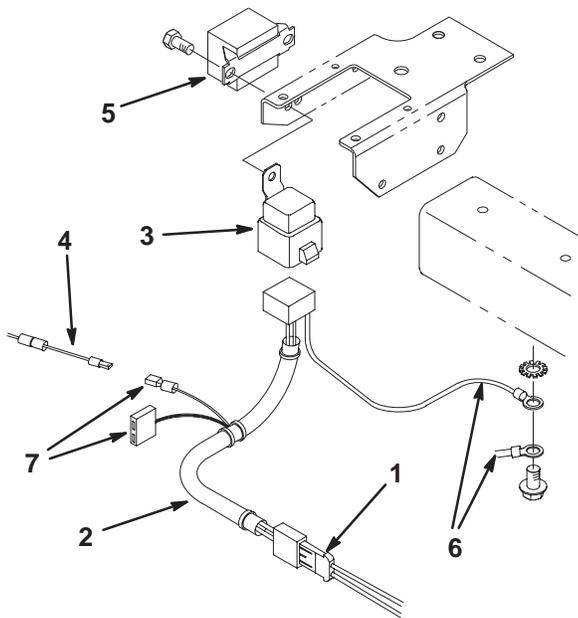
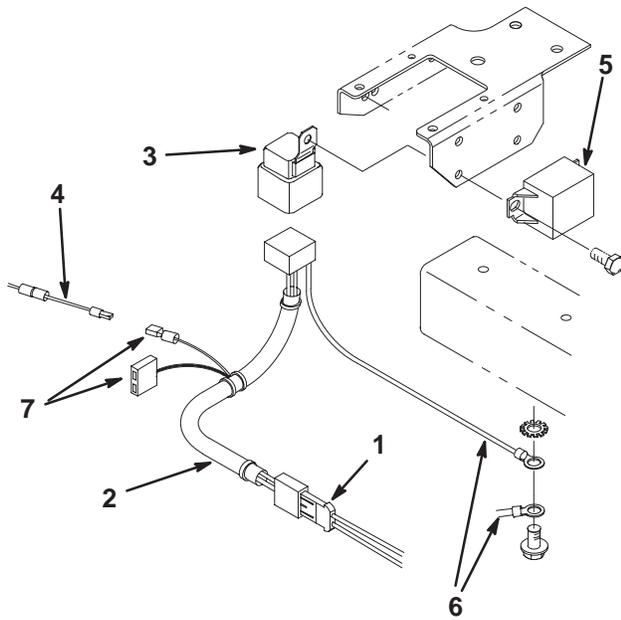

Figure 4
Figure 5
- Plug the switch connector into the main traction unit harness (Fig. 4). Also, Toro software, Part No. 94-7342 must be at least revision A. The revision level can be found on Toro PC.
- Plug the switch connector into main traction unit harness (Fig. 4).
- Insert the ends of the Violet/Red wires into the splice terminal on the jumper wire (included in the kit) (Fig. 4) and crimp the terminal.
- Locate and remove the self tapping screw securing the ground wire to the underside of the frame below the relays (Fig. 4).
- Secure the ground wire and backlap harness ground wire to the frame with the screw removed (Fig. 4).
- Remove the fasteners securing the front of the glow relay to the bracket (Fig. 4). Secure the backlap relay to the inside of the bracket with the fasteners removed.
- Connect the backlap harness to the relay, switch connector, and main harness (Fig. 4).
Model 04381 with serial numbers 60635 through 99999 (Fig. 4) and Model 04383 with serial numbers 200000001 and Up (Fig. 5)